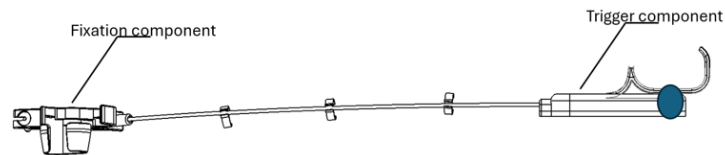

Fig.2
2. Ensure that the sticker have not been damage before use (See Fig. 2).